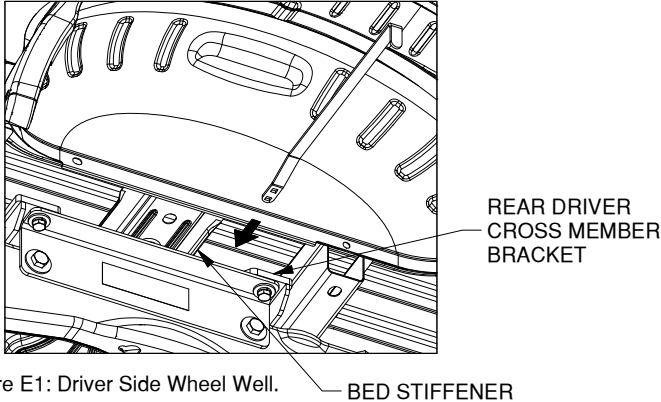

Figure E1: Driver Side Wheel Well.
1. **Position handle.** There is very little room between the bed and the frame. From the outside of the driver side wheel well, Pass the handle over the frame between the bed stiffener and the rear driver cross member bracket as shown in figure E1. The handle will have to be pushed toward the cab once the end with the holes is past the frame.